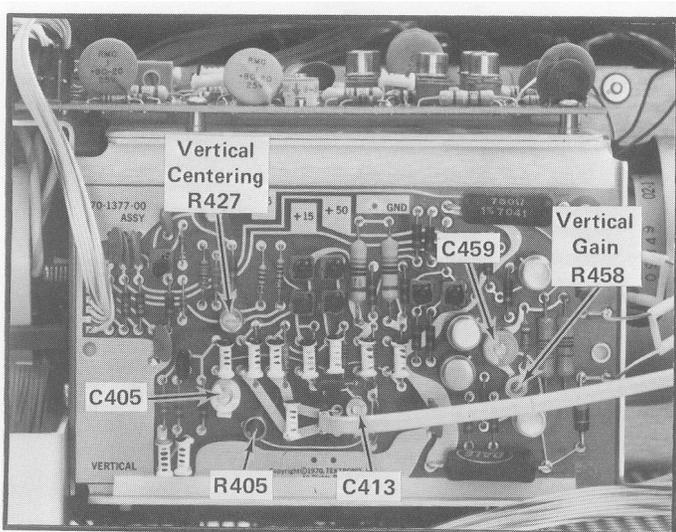

Fig. 5-5. Locations of Vertical System Adjustments.
- d. ADJUST—Vertical Centering adjustment R427 (see Fig. 5-5) to position the trace to the center horizontal line.
- e. ADJUST—Vertical Gain adjustment R458 (see Fig. 5-5) for exactly six divisions of deflection between the second and sixth traces.
- d. ADJUST—High-frequency compensation as given in Table 5-2 for optimum square leading corner and flat top with minimum aberrations within limits given in part c. Location of adjustments is shown in Fig. 5-5. Use the low-capacitance screwdriver to adjust the variable capacitors. Repeat the complete adjustment procedure several times to obtain optimum adjustment.